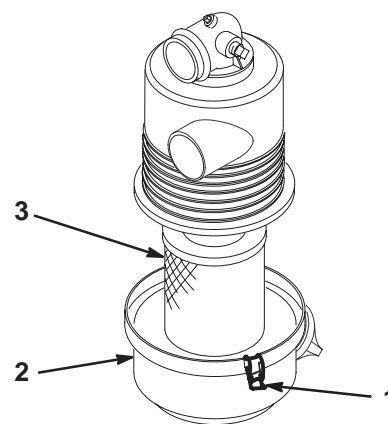

Figure 28
3. Release the latches securing the air cleaner cover to the air cleaner body. Separate the cover from the body. Clean the inside of the air cleaner cover (Fig. 28).
4. Gently slide the filter out of the air cleaner body to reduce the amount of dust dislodged (Fig. 28). Avoid knocking the filter against the air cleaner body.